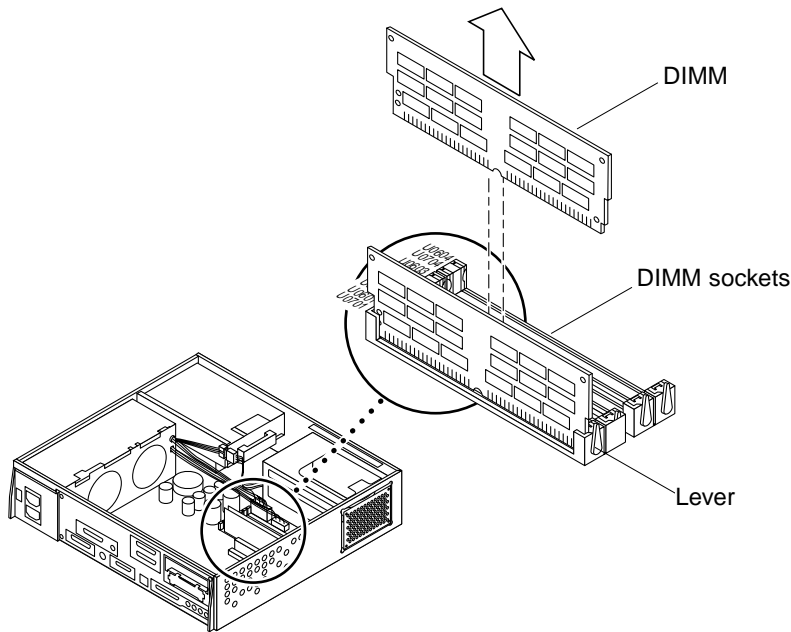

FIGURE 2-8 Removing a DIMM
2. Locate the DIMM to be removed (FIGURE 2-8).